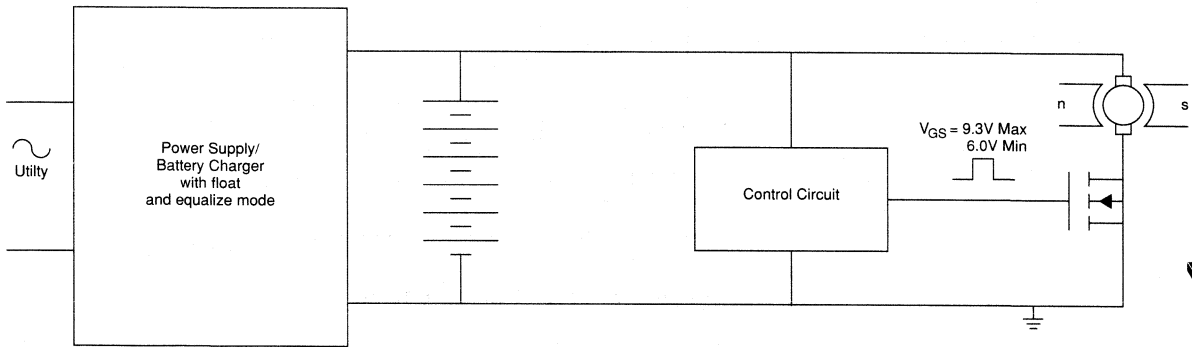

Figure 4. Motor of a Fluid Injection Pump
- Medical equipment with battery back up is another popular application. Figure 4 shows the motor of a fluid injection pump powered by the utility supply and backed by a NiCad battery. The $V_{GS} = 6$ volts condition demands careful attention, because the $R_{DS(ON)}$ has to be low in order to ensure a low drain to source voltage drop. A large voltage drop can A) affect motor performance, and B) cause high I^2R losses, reducing system efficiency and battery back-up time.